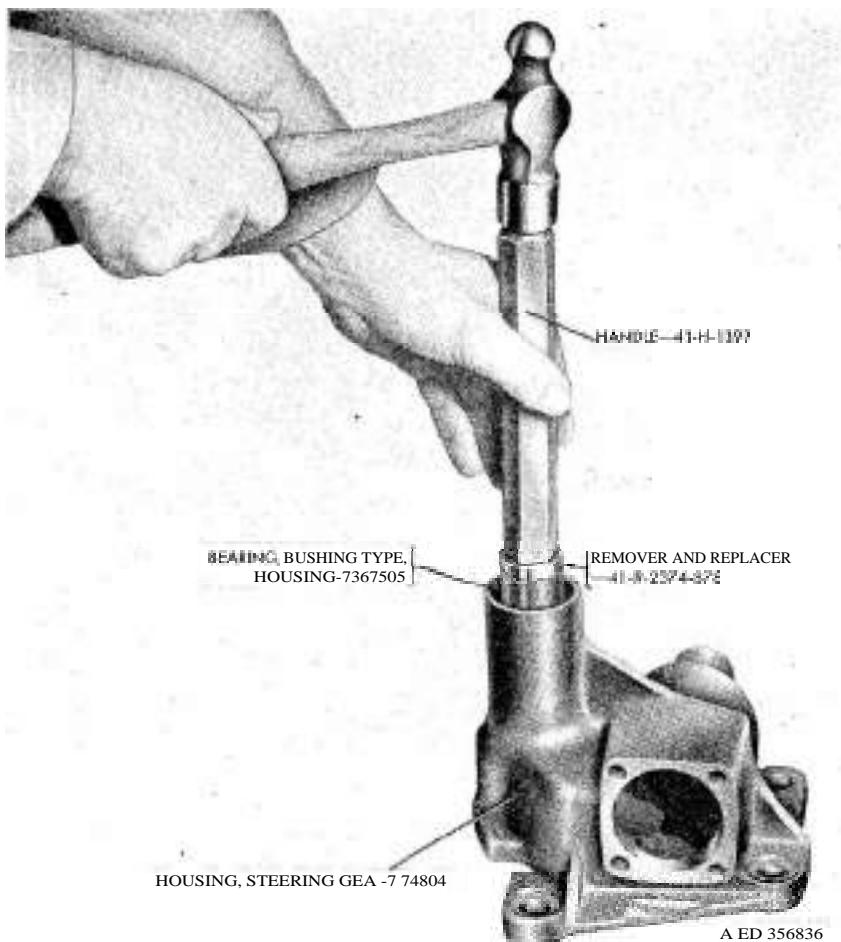

Figure 162. Removing and installing housing bushing-type bearing.
of housing bushing-type bearings (J and AA) is necessary, drive bearings from steering gear housing (K) with remover and replacer 41-R-2374-878 and handle 41-H-1397 (fig. 162).
b. Install Worm Upper Bearing Cup. If inspection (par. 184c) reveals that it is necessary to replace worm upper bearing cup (BB), install bearing cup in steering gear housing (K) . This operation can be performed with an arbor press or a bronze drift and hammer. Make certain cup is firmly bottomed in steering gear housing counterbore.
- (1) If inspection (par. 184a) reveals that it is necessary to replace housing bushing-type bearings (J and AA) , install new bearings in steering gear housing with remover and replacer 41-R-2374-878 and handle 41-H-1397 (fig. 162) .
- (2) If necessary, ream bushing-type bearings until Pitman arm shaft is just a free fit without play.